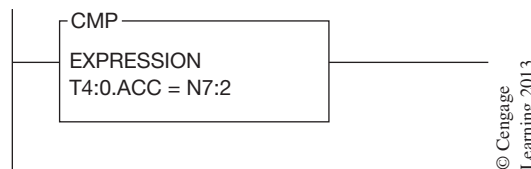

Figure 13–17 Allen-Bradley PLC-5 Compare Instruction
Output O:010/04, the timer done bit (DN), comes *ON* at 100 when the accumulated value equals the preset value. The time chart in Figure 13–16 illustrates the *ON* and *OFF* states of the outputs in relation to time and the data compare instructions.
The Allen-Bradley PLC-5 has an instruction that is a combination of the previous instructions, it is the **compare instruction**, or **CMP**. The CMP instruction is an input instruction that compares values from addresses or files. Figure 13–17 shows a CMP instruction and the compare expression is designated as T4:0.ACC = N7:2.
The table in Figure 13–18 shows the different operators (symbols) that the CMP instruction uses. Because standard computer keyboards do not have keys for not equal, less than or equal to, or greater than or equal to, the CMP instruction uses variations, as shown in Figure 13–19.